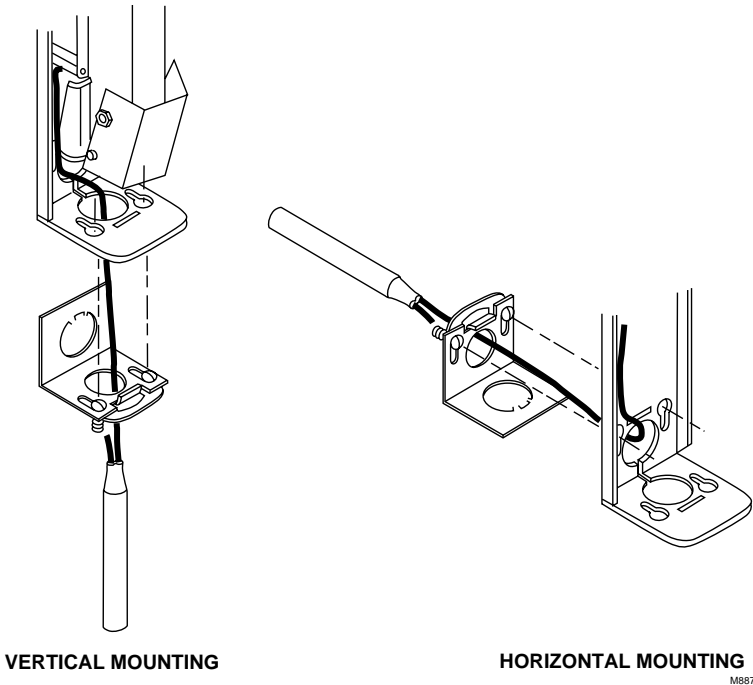

Fig. 2. Mounting bracket placement for vertical or horizontal mounting.
7. Determine whether vertical or horizontal mounting method is desired; see Fig. 2 for mounting bracket placement.